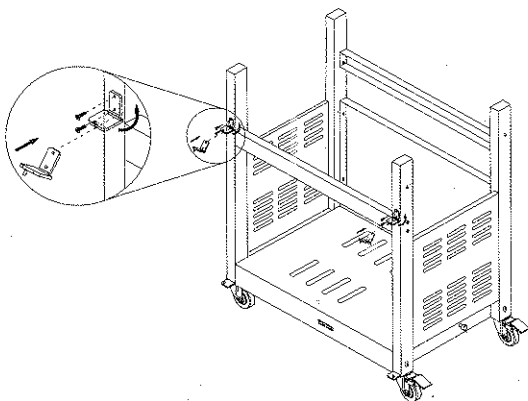

Figure 6
1. Attach door fixing tabs to square legs by using  $\frac{5}{32}$ " x 10mm philips head screws. (Fig.6)